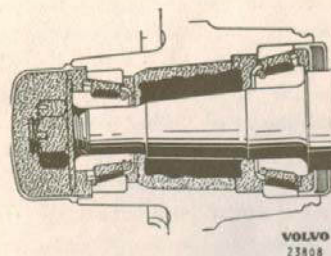

Fig. 6-13. Lubricating the front wheel bearings
8. Fill grease into the bearings with the help of a pressure lubricator. If a lubricator is not available, pack in as much grease by hand as will fill up the space between the roller retainers and the bearing inner ring. Also smear grease on the out-sides of the bearings and on the outer rings pressed in the hub. The recess in the hub is filled with grease all round up to the smallest diameter of the outer ring of the outer bearing, see Fig. 6-13.